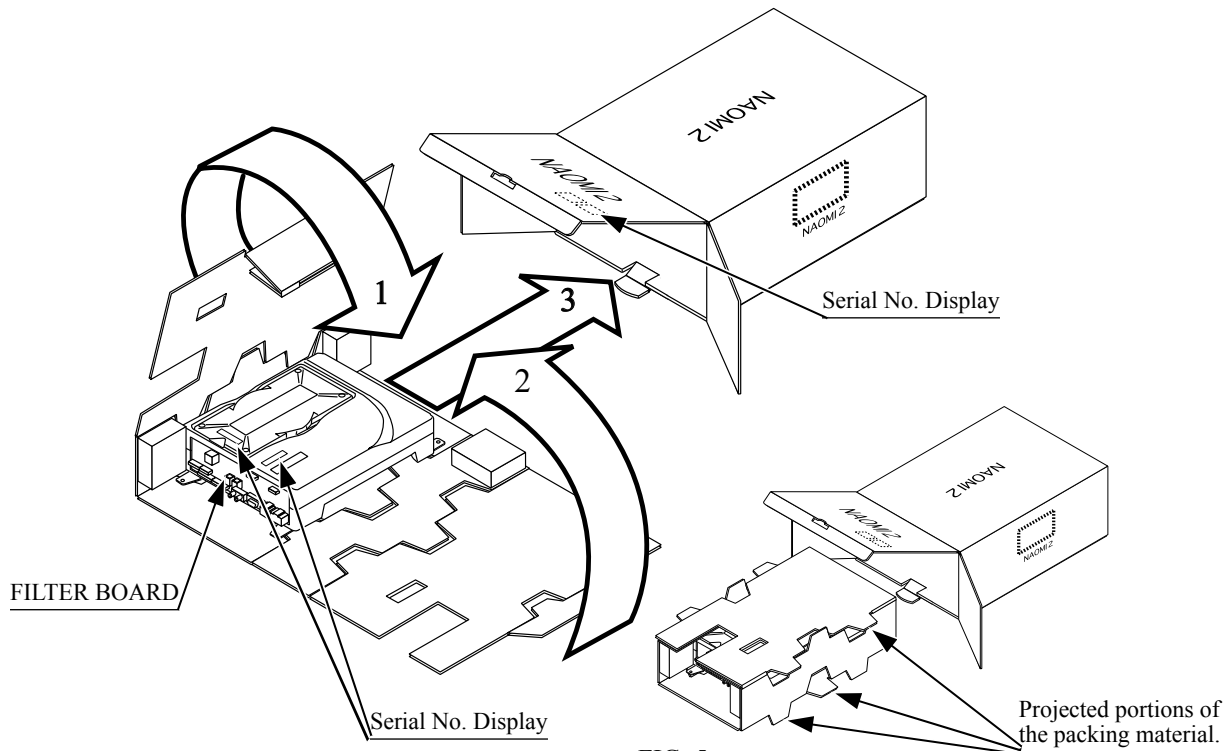

FIG. 5
<p>TOSHIBA Remote Controller used for adjustment of the projector. See Section 11. 200-5536(1)</p>	<p>CARTON BOX 601-11044 (1) Used for transporting the Game Board. Refer to FIG. 5.</p>